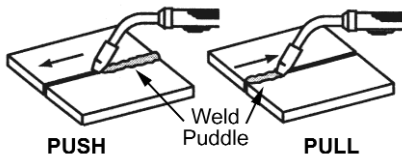

Figure 12. Travel Direction
1. **TRAVEL DIRECTION** is the direction the gun is moved along the weld joint in relation to the weld puddle. The gun is either PUSHED (see Figure 12) into the weld puddle or PULLED away from the weld puddle.